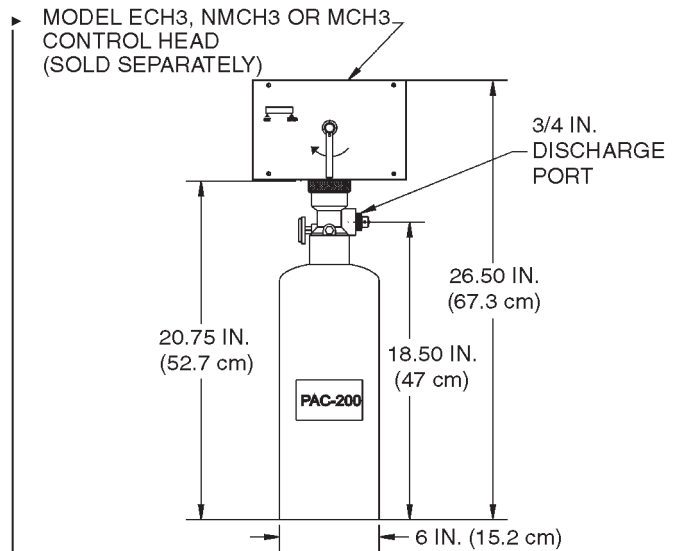

Figure 2-9. Model PAC-200 Pneumatic Actuating Cylinder.
The Model PAC-200 is a pneumatic actuating cylinder that can actuate a maximum of twenty (20) agent cylinders simultaneously. The Model PAC-200 includes a DOT 4BA350 cylinder pressurized with dry nitrogen to 350 PSIG @ 70° F, a brass valve with pressure gauge, and a wall mounting bracket. A Model MCH3, NMCH3 or ECH3 control head must be purchased separately and connected to the PAC-200 to open the valve. See Figure 2-9.